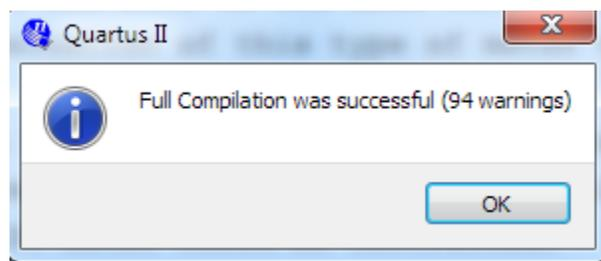

Figure 1-59: Successful
39. A window that shows successful compilation will appear as shown in Figure 1-59.